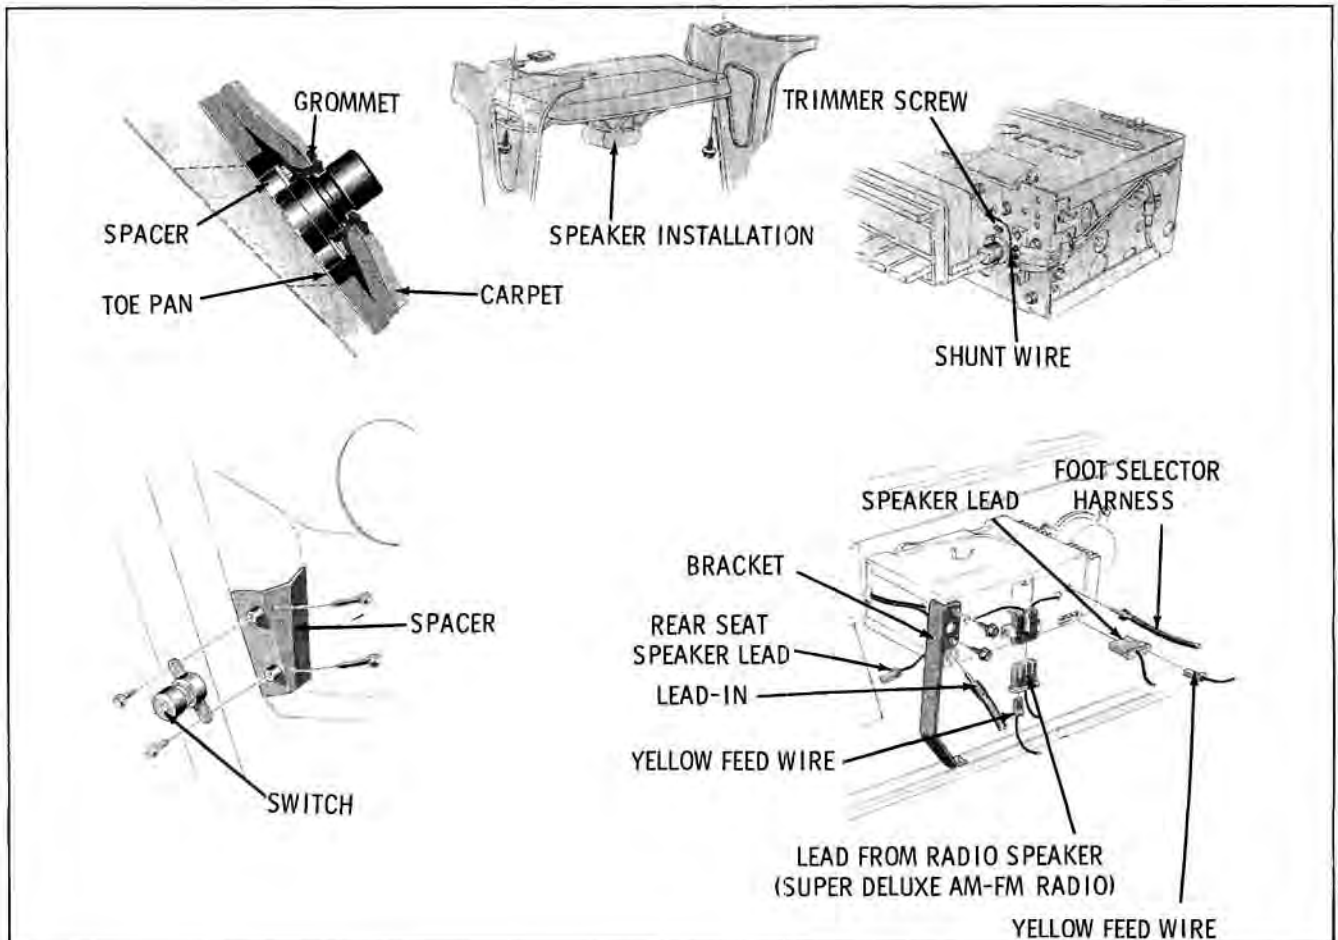

Fig. 12-24 Radio and Speaker Attachment
## TRIMMER ADJUSTMENT (Fig. 12-24)
3. If car is equipped with a rear seat speaker, insert a shunt wire as shown in Fig. 12-24.